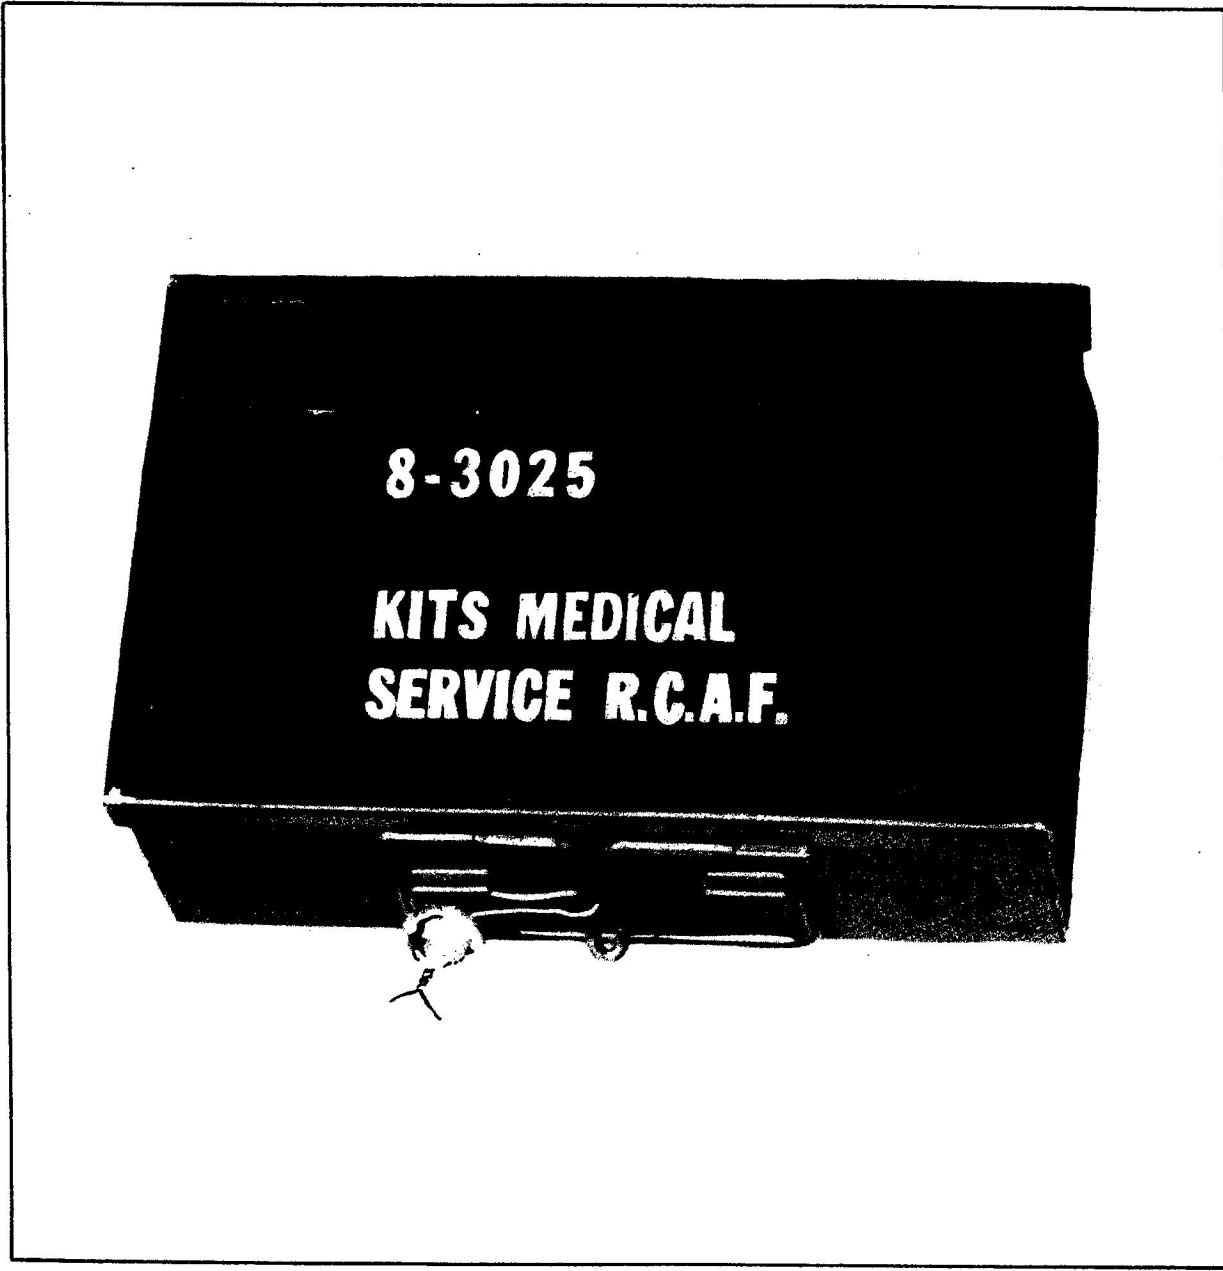
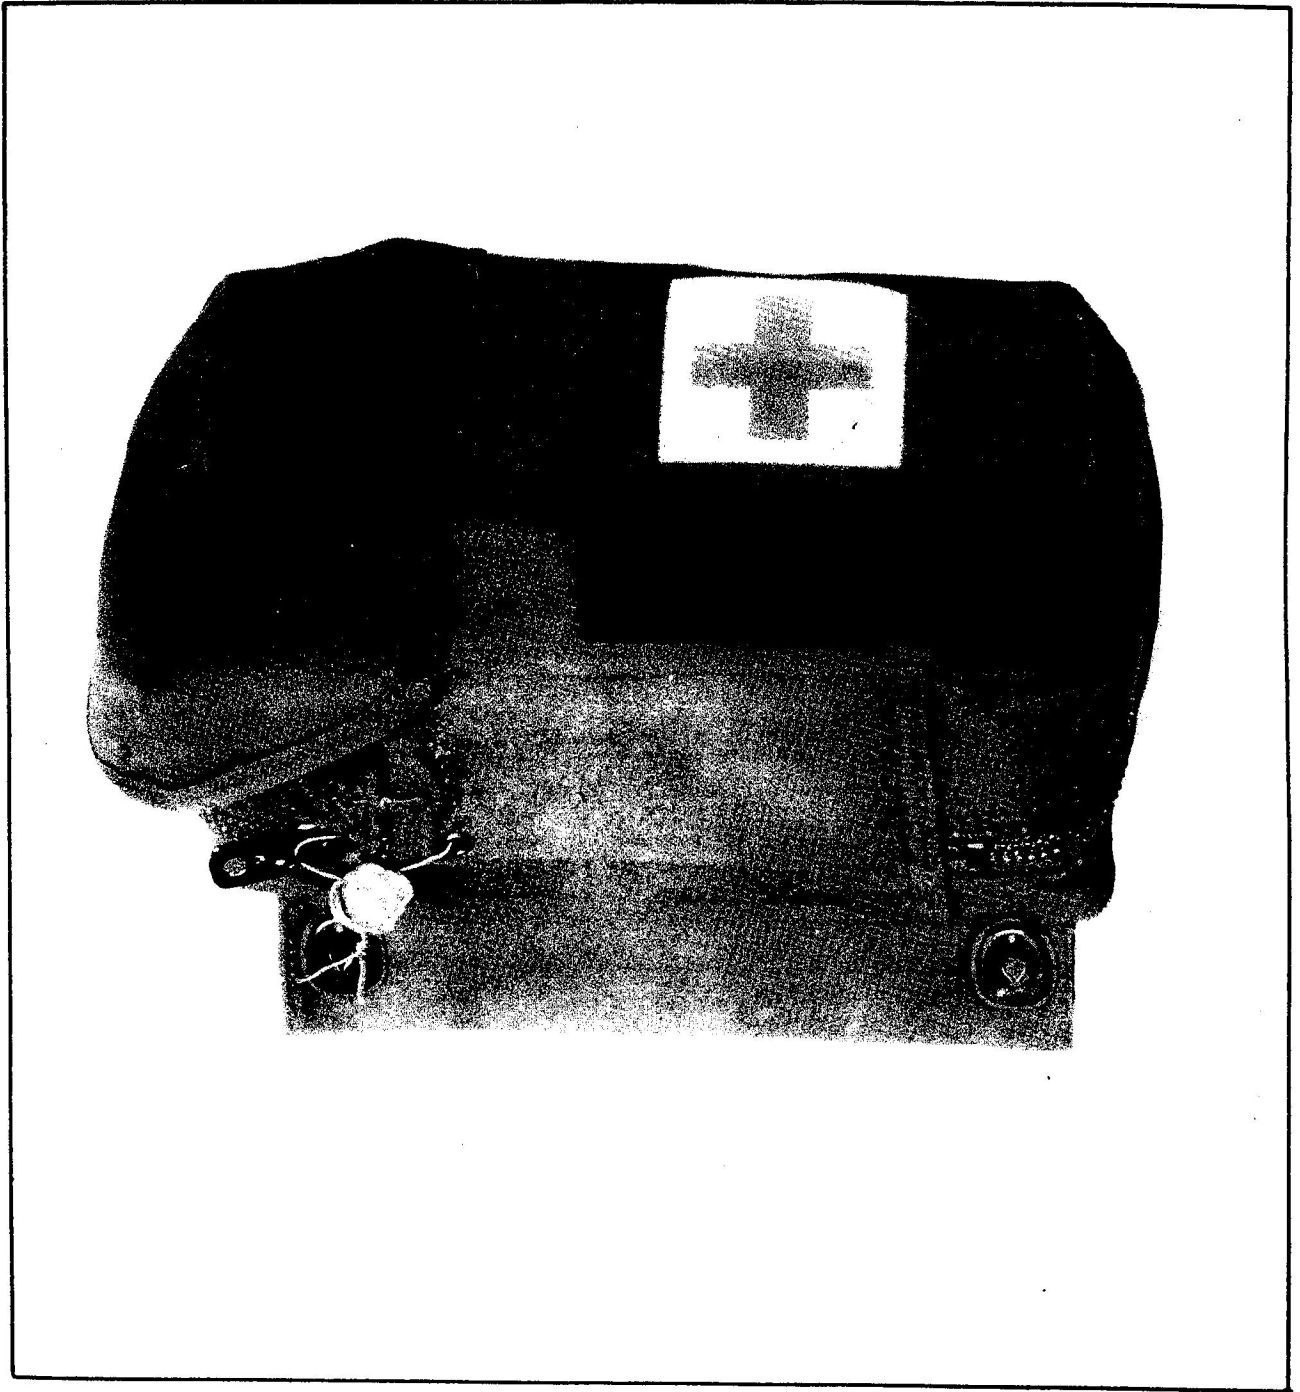

Figure 5 Sealing of Kit, First Aid, General Purpose (Metal Container)
Figure 6 Sealing of Kit, First Aid, General Purpose (Canvas Container)
(1) There are various types of containers in use, metal and canvas containers. The metal containers consist of a one and two catch container and are sealed as shown in Figure 5, using wire locking and a lead seal. The canvas container which has recently been introduced into the service will supersede the metal containers. The container is sealed in the same manner as the universal battle dressing first aid kit described in paragraph (2), see Figure 6.